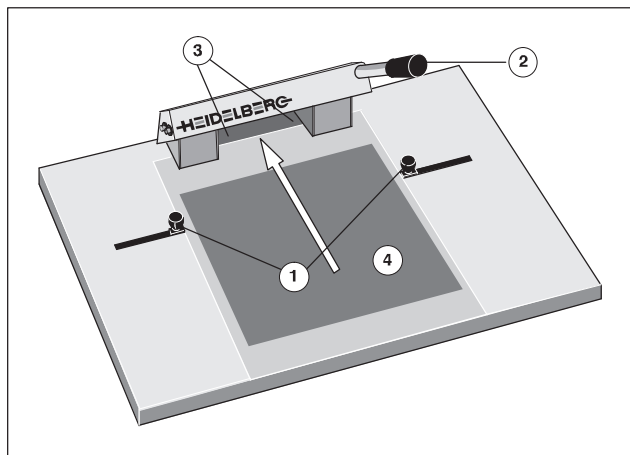

Fig. 2 Printing plate punch
1. Move the lateral printing plate stops (Fig. 2/1) as far out as they will go.
2. Place the printing plate (Fig. 2/4) onto the printing plate punch with the coated side facing upwards and slide in the front edge of the plate in the direction of the arrow up to the stop (Fig. 2/3).
3. Place the lateral stops (Fig. 2/1) against the printing plate. The side stops align the printing plate laterally to a central position.
5. Hold the plate tight and pull the lever (Fig. 2/2) down to the stop in order to punch.